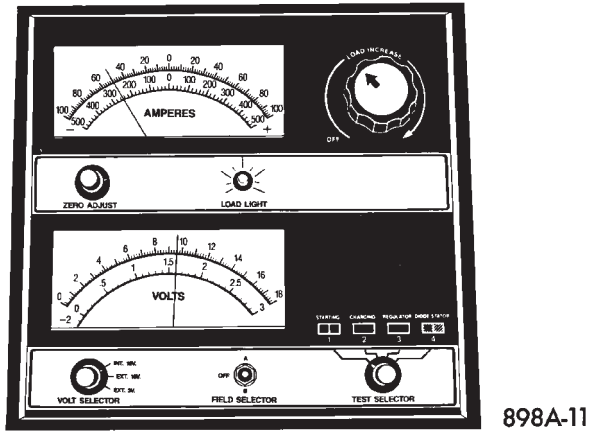

Fig. 9 Load 50% CCA Rating - Note Voltage - Typical
(4) Allow the battery to stabilize to open-circuit voltage. It may take up to five minutes for the battery voltage to stabilize.
(5) Rotate the load control knob to maintain a load equal to 50% of the CCA rating of the battery (Fig. 9). After fifteen seconds, record the loaded voltage reading, then return the load control knob to the Off position.
(6) The voltage drop will vary with the battery temperature at the time of the load test. The battery temperature can be estimated by using the ambient temperature during the past several hours. If the battery has been charged, boosted, or loaded a few minutes prior to the test, the battery will be somewhat warmer. See the Load Test Temperature chart for the proper loaded voltage reading.